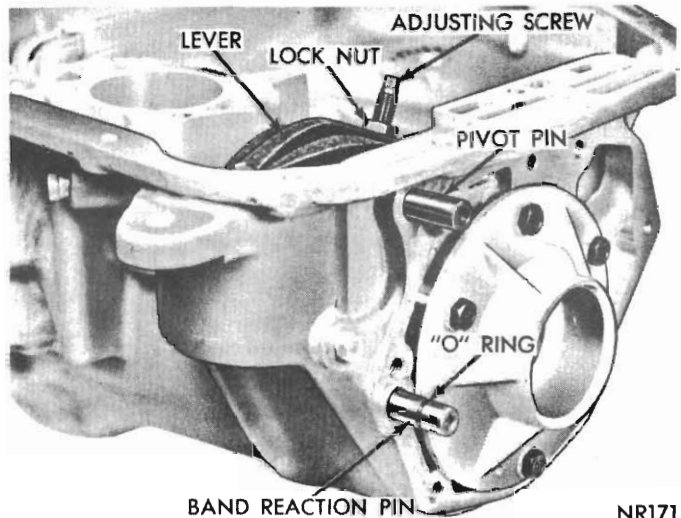

Fig. 97 - Double wrap band linkage - installed (A-904-LA transmission only)
This transmission has a double-wrap band supported at two points by a band reaction pin in the case and acted upon at one point by the servo lever adjusting screw (*Fig. 97 and 99*).
(1) Push band reaction pin (with new O-ring) into case flush with gasket surface (*Fig. 97*).